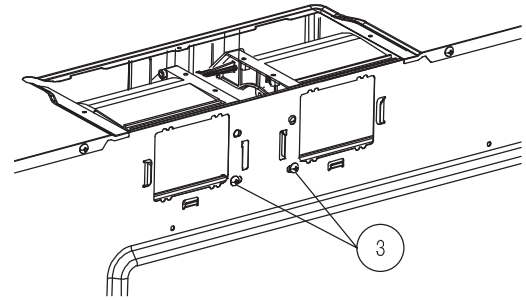

Figure 11
Place the blower unit into the opening and secure it to the oven with the screws(3) from step 2. See Figure 11.